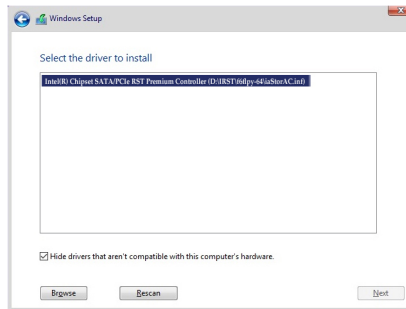

Figure 1
When a screen as shown in Figure 1 appears, select **Intel(R) Chipset SATA/PCIe RST Premium Controller (I) \IRST\6f1py-x64\ich9m\AcInt1** and click **Next** to load the driver and continue the OS installation.